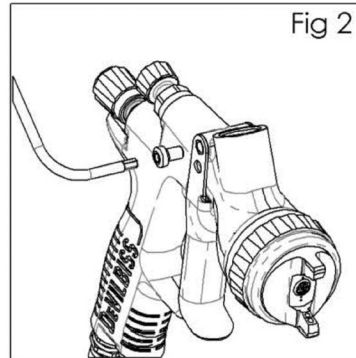

Fig 2
1. Remove trigger screw (38) with Star T20 tool. (See fig 2).